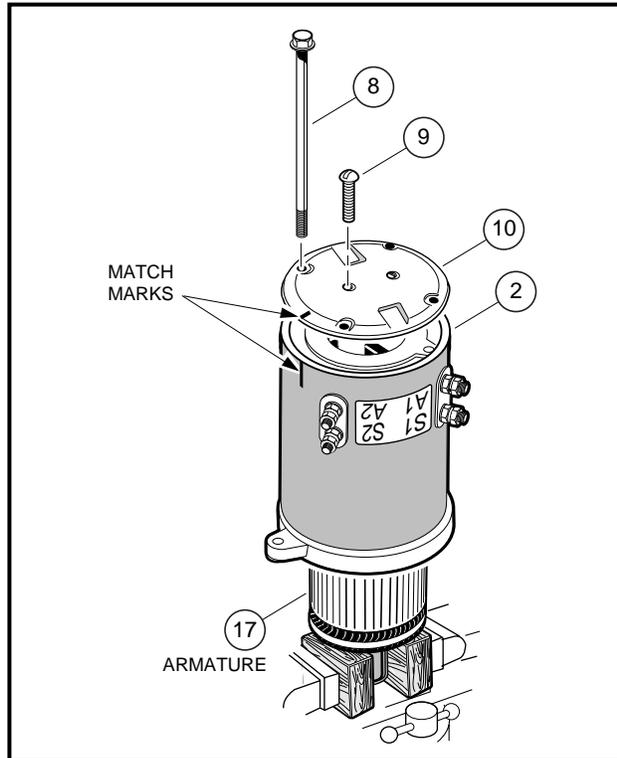

Figure 15-6 Motor Disassembly
- Before beginning disassembly, match mark motor end shield and stator shell. Place motor in a vice with wooden blocks as shown (Figure 15-6, Page 15-5). Read **DANGER** and **WARNING** on page 15-1.
- Remove the four bolts (8) securing the end shield (10) to the stator shell (2) (Figure 15-6, Page 15-5).
- Slide the armature (17) out of the opposite end of the stator shell (2) (Figure 15-6, Page 15-5).